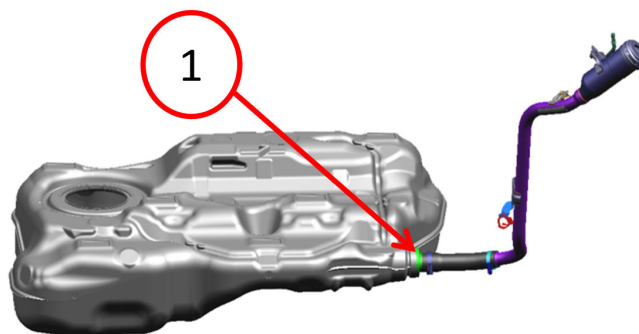

Fig. 1
2. Insert a bolescope probe through the filler neck and attempt to open the inflow control valve Fig. 1 using the end of the bolescope.